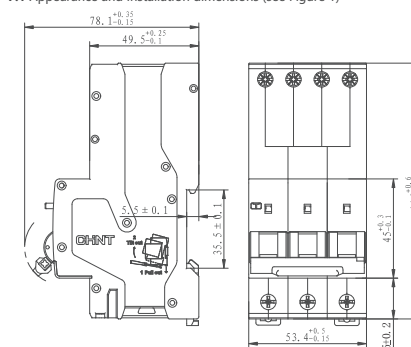

Figure 1 NB3LEU-63 Outline Installation Dimensional Drawing
7.1 Appearance and installation dimensions (see Figure 1)